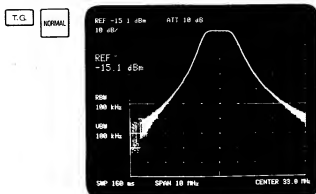
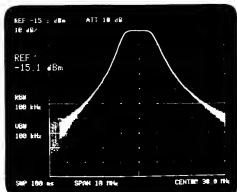

Fig. 7-2 Normal mode signal response
Fig. 7-3 Through phase response
- ② Press the T.G. key to activate the tracking generator.
- ③ Press the NORMAL key to measure the pass band response of the device under test. According to the measurement result select the appropriate T.G. level and INPUT ATT. level (Figure 7-2).
- ④ Disconnect the device under test from the measuring setup and connect the input and output cables using an inline plug adapter to check the through frequency response.
- ⑤ The through phase response can be observed by pressing the PHASE key (Figure 7-3).